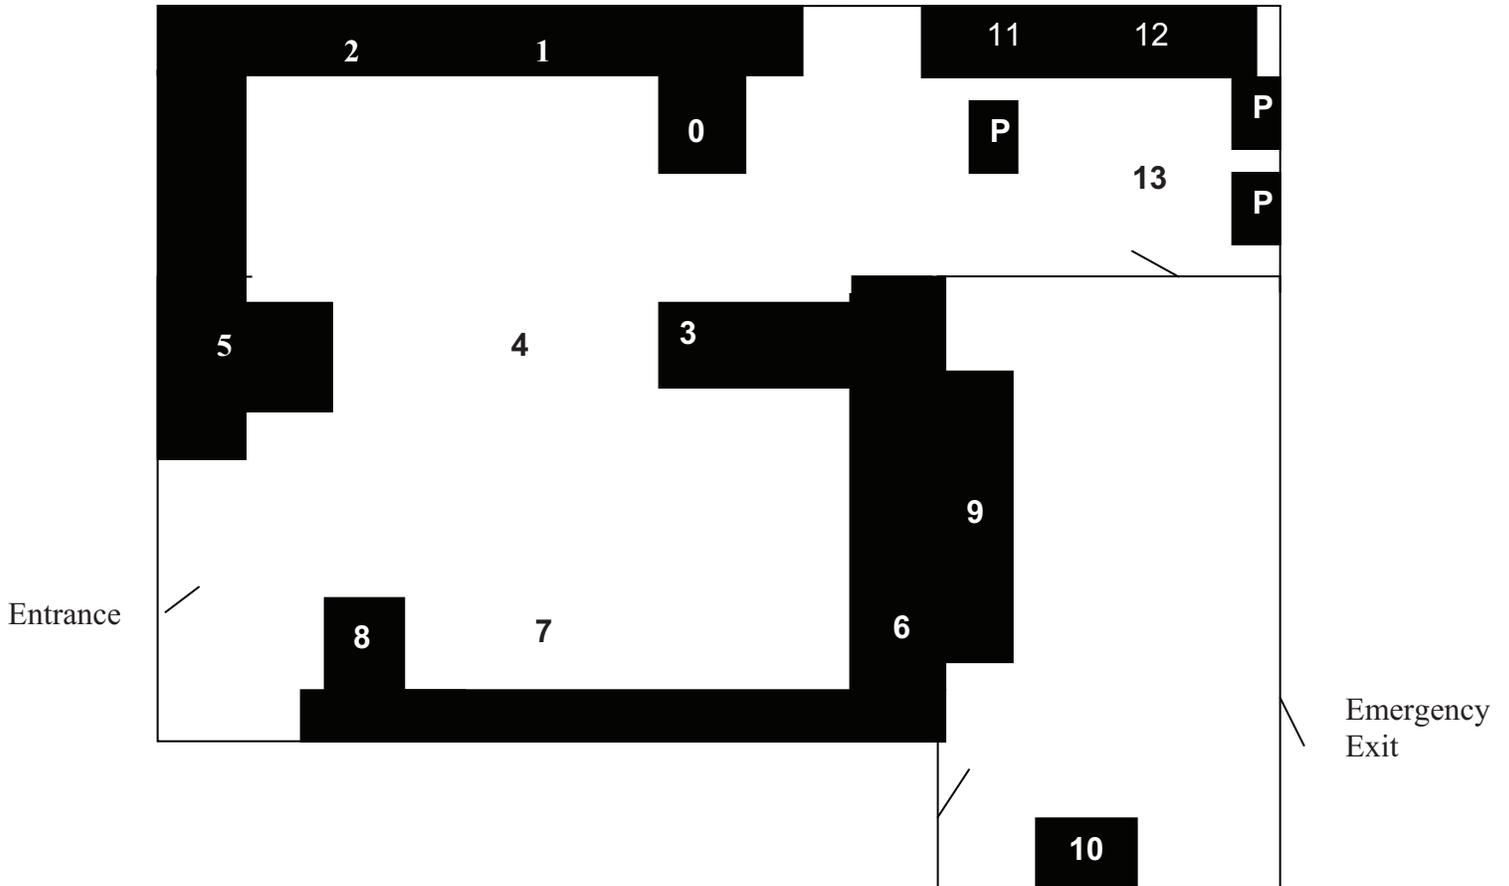

Figure 4: Diagram of Biomanufacturing and Prep Suites
8.1.7. Press [2] for [INC] or [3] for [DEC] to increase or decrease the location number. The three bench areas with the "P" label is on wheels making them portable, so they may not always be in the same location as shown in the diagram. See figure 4 to determine the appropriate location numbers.
- 9.4. Figure 4: Diagram of Biomanufacturing and Prep Suites